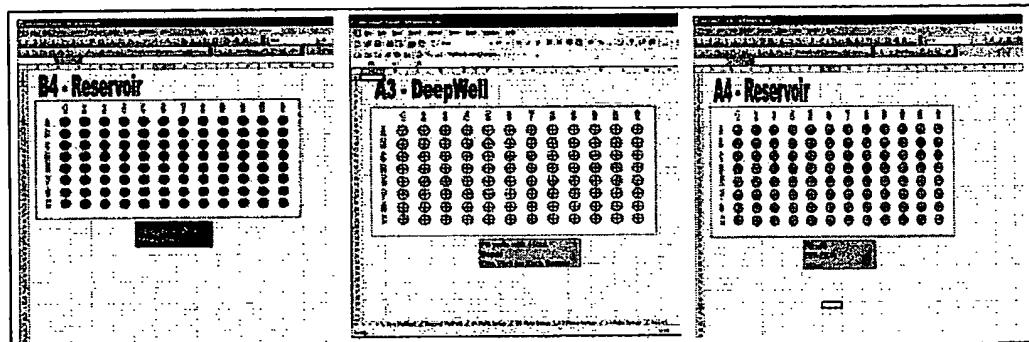

Figure C.4
3. The next three spreadsheets provide information on water, ethanol and bead reservoir fill volumes (Figure C.4).